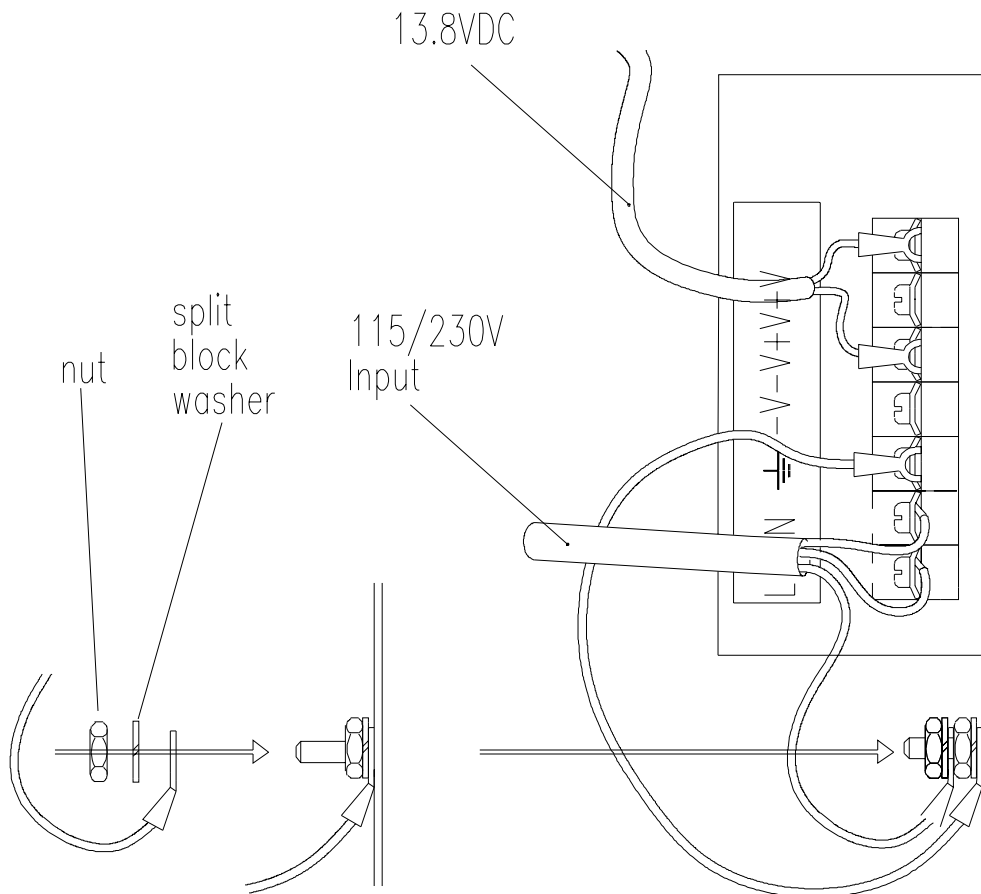

Figure 7. Grounding
2. Terminate and tighten the ground cables (see Figure 7).
3. Terminate and tighten the 115/230V cable (see Figure 7).